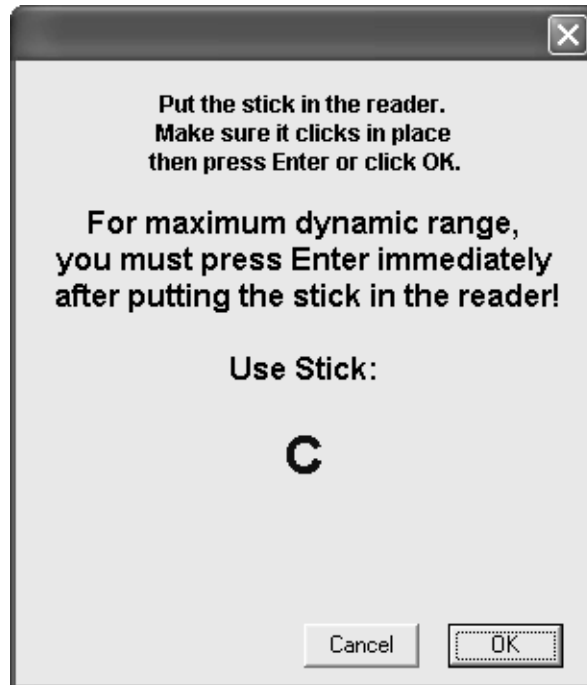

Figure 3-14: Put the stick in the Reader... Message
- 3) Wait for the “Put the stick in the Reader...” message (Figure 3-14).